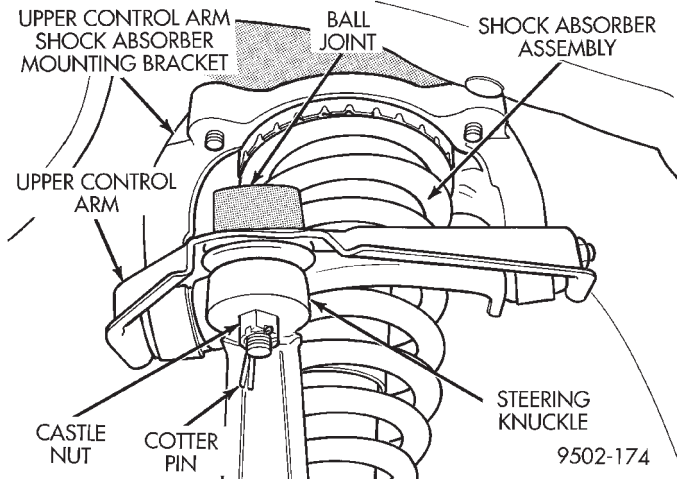

Fig. 5 Ball Joint Attachment To Steering Knuckle
- (6) Remove the cotter pin and castle nut (Fig. 5) from the upper ball joint stud.
- (7) Remove the upper ball joint stud from the steering knuckle using Puller, Special Tool, C-3894-A
(4) Install upper ball joint into steering knuckle. Install castle nut on ball joint stud. Tighten castle nut to a torque of 62 N·m (45 ft. lbs.). Install cotter pin in stud of ball joint (Fig. 5).